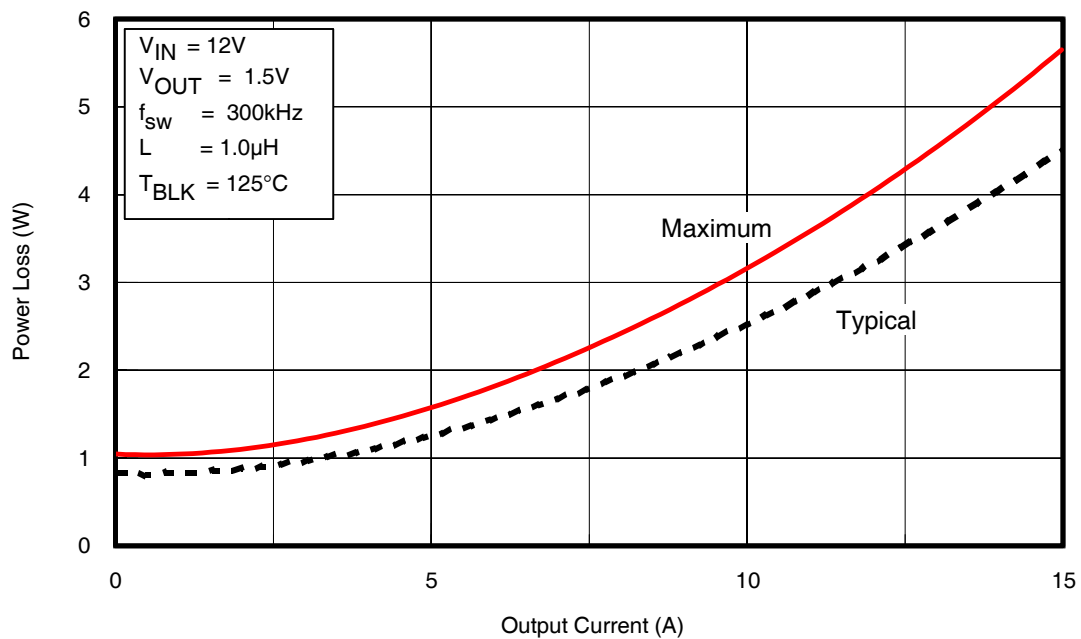
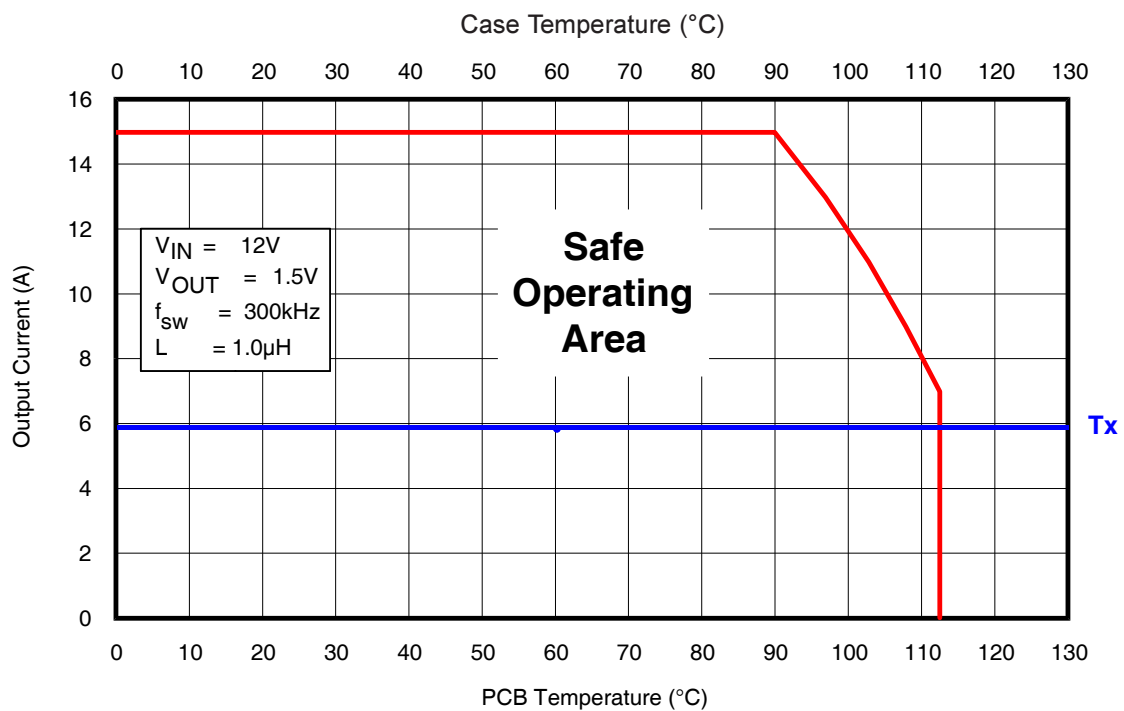
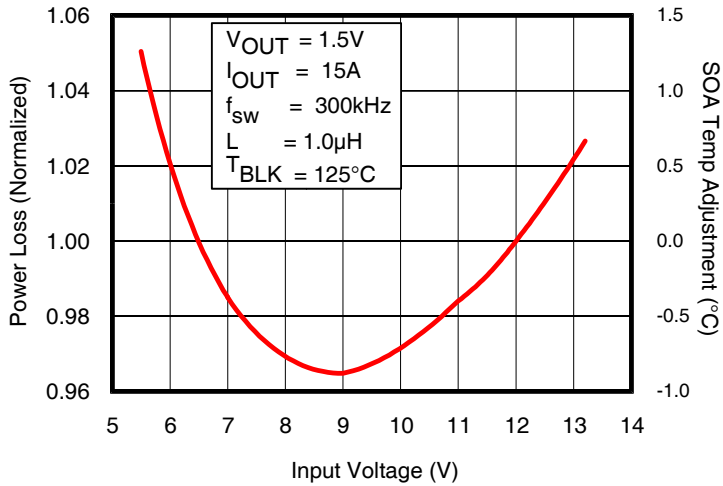

Fig. 2: Power Loss vs. Current
Fig. 3: Safe Operating Area (SOA) vs. T_{PCB} & T_{CASE}
Fig. 4: Normalized Power Loss vs. V_{IN}
To make adjustments to the power loss curves in Fig. 2, multiply the normalized value obtained from the curves in Figs. 4, 5, 6 or 7 by the value indicated on the power loss curve in Fig. 2. Then if multiple adjustments are required, multiply all of the normalized values together, then multiply that product by the value indicated on the power loss curve in Fig. 2. The resulting product is the final power loss based on all factors. See example no. 1.
To make adjustments to the SOA curve in Fig. 3, determine your maximum PCB Temp & Case Temp at the maximum operating current of each iP1203. Then, add the correction temperature from the normalized curves in Figs. 4, 5, 6 or 7 to the T_x axis intercept (see procedure no. 2 above) in Fig. 3. When multiple adjustments are required, add all of the temperatures together, then add the sum to the T_x axis intercept in Fig. 3. See example no. 2.
- (Fig. 2) Maximum power loss = 4.1W
(Fig. 4) Normalized power loss for input voltage ≈ 1.025
- Output1 (Fig. 4) Normalized SOA Temperature for input voltage $\approx +0.7^{\circ}\text{C}$